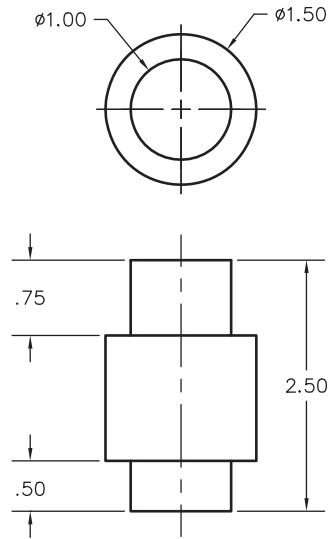

Fig. 39-12
2. To draw the shaft shown in Fig. 39-12, set the elevation for the inner cylinder at **0**. Set the snap resolution before picking the center point of the first circle.